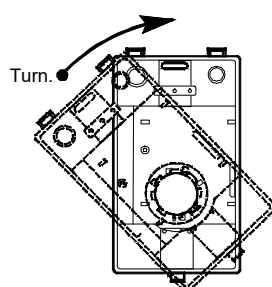

Figure 7. Assembling the sensor with the sampling probe (2)
- 2) Turn the sensor clockwise until it stops, as shown in Fig. 7.